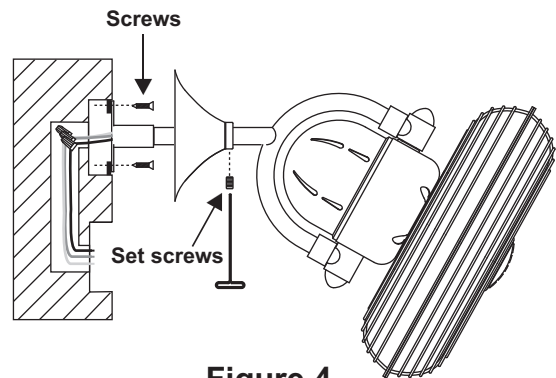

Figure 4
8. Attach fan/hanger bracket wall junction box using hardware provided. Tighten screws well. (Fig. 4)
9. Push canopy down goose neck toward wall until the canopy lays flat against the wall surface, covering junction box and mounting plate. Tighten set screws in canopy. (Fig. 4)